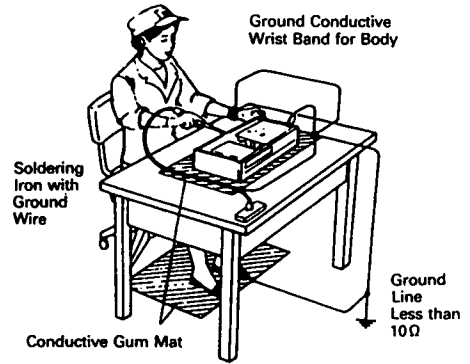

Fig. 7
1. Remove the CD mechanism assembly by referring to the "EXPLODED VIEW II" on page 27 (See Fig. 7).